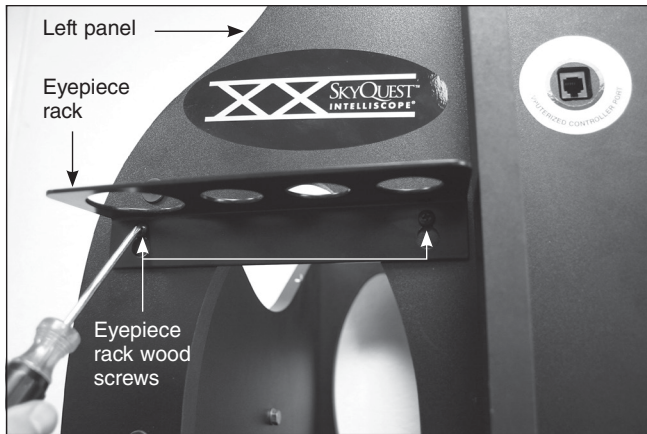

Figure 15. Using the two eyepiece rack wood screws, install the eyepiece rack into the pilot holes near the top of the oval cutout in the left panel.
27. The aluminum eyepiece rack holds three 1.25" eyepieces and one 2" eyepiece in a convenient place on the base, within easy reach while you're observing. Near the top of the oval cutout in the left side panel you will notice two pre-drilled pilot holes located approximately 6" apart. Thread the eyepiece rack screws into the starter holes with a Phillips screwdriver. Now "keyhole" the eyepiece rack onto the wood screws and continue tightening the screws (**Figure 15**). If you want to remove the rack, be certain the screws are loose enough so that you can lift the rack and remove it through the larger part of the keyholes. If you want to have the rack permanently attached, tighten the screws firmly.